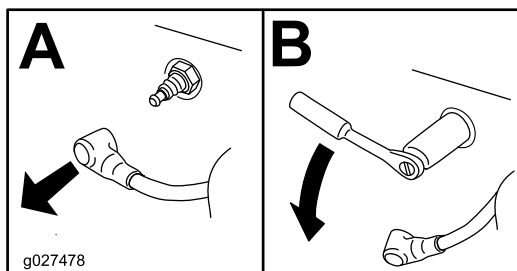

Figure 50
- Remove the spark plug (Figure 50).